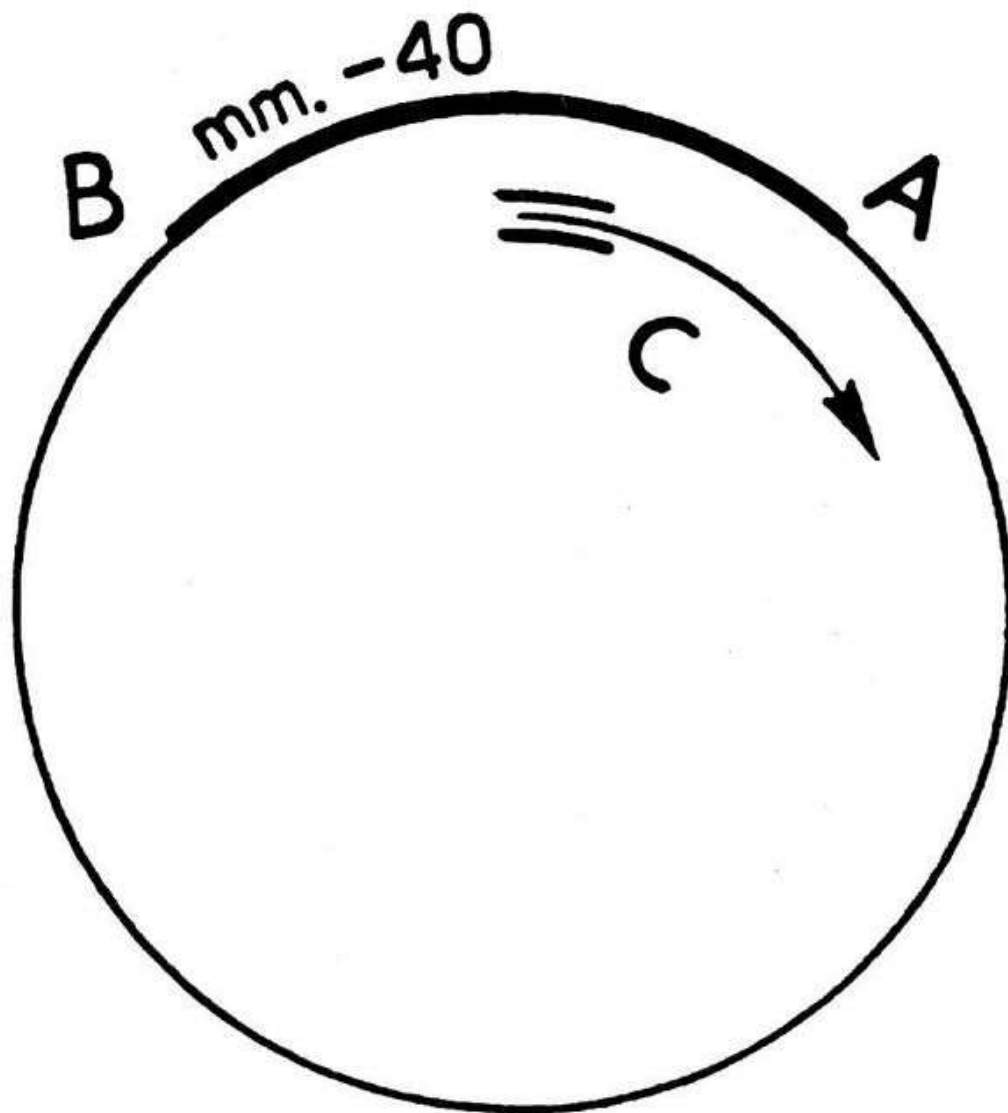

Fig. 7
3) Time ignition so the breaker points begin to open when the mark on the rim of the flywheel is about 40 mm. (1.57") away from the mark on the crankcase (see fig. 7). If this distance, which should be measured on the rim of the flywheel with a flexible ruler, is not correct, proceed as follows :